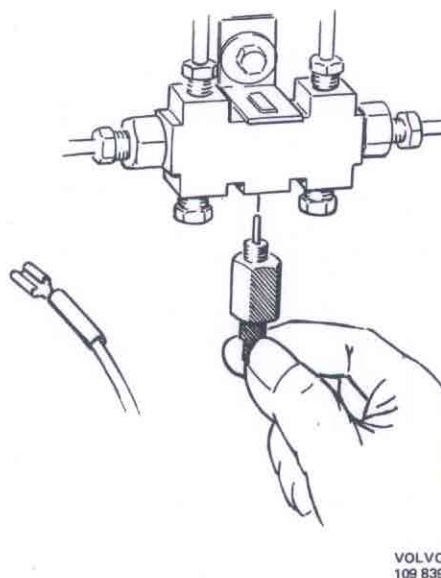

Fig. 77-22. Contact for pressure difference
3. Disconnect and plug the brake lines and bleed the wheel cylinders. Remove the contact for the pressure difference, see Fig. 77-22, during the bleeding. If a bleeder apparatus is used, the working pressure should be 0.2 MPa (2 kp/cm² = 28 lbf/in²). For more detailed instructions concerning bleeding, see Part 5.